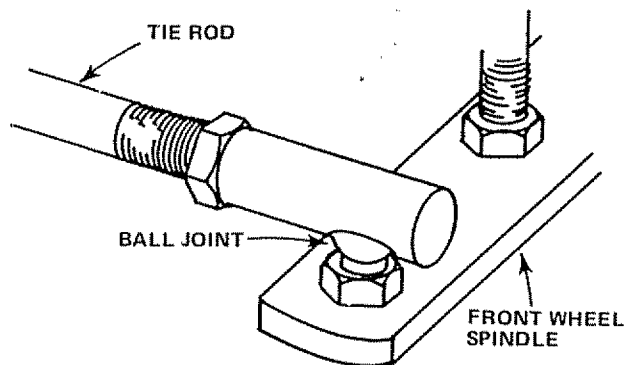

FIGURE 35
- a. Move Rubber Boots to expose Ball Joints on Tie Rods and Steering Link (Fig. 35).